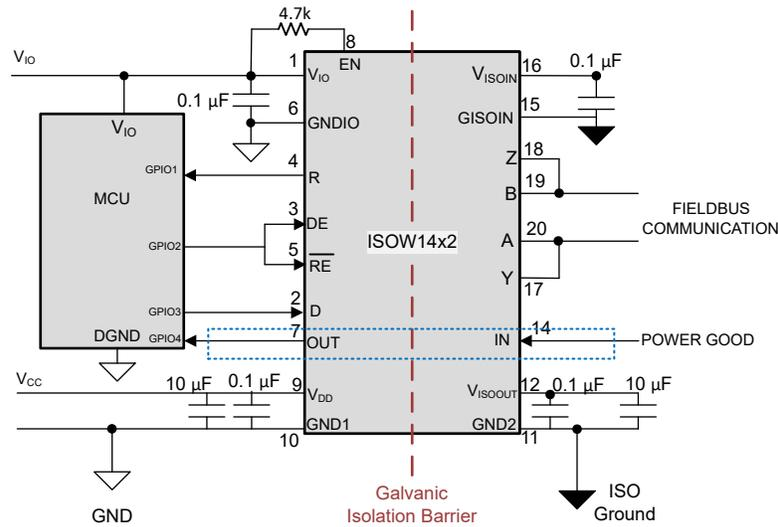

Figure 8. Use of GPIO channel for diagnostic signal transfer
- 3. Factory automation, Building automation:** In some factory automation or building automation applications, isolated RS-485 is often used for fieldbus communication. In some cases, diagnostic signals are transmitted from the bus side to the micro-controller side to monitor the presence of power on the bus side or health of the isolation barrier. This can be accomplished by a discrete optocoupler or digital isolator but this adds extra discrete components to the design and consumes more board area. The ISOW14x2 devices have an integrated GPIO channel, as shown in Figure 8, that eliminates the need for this discrete implementation for the diagnostic monitoring signal.